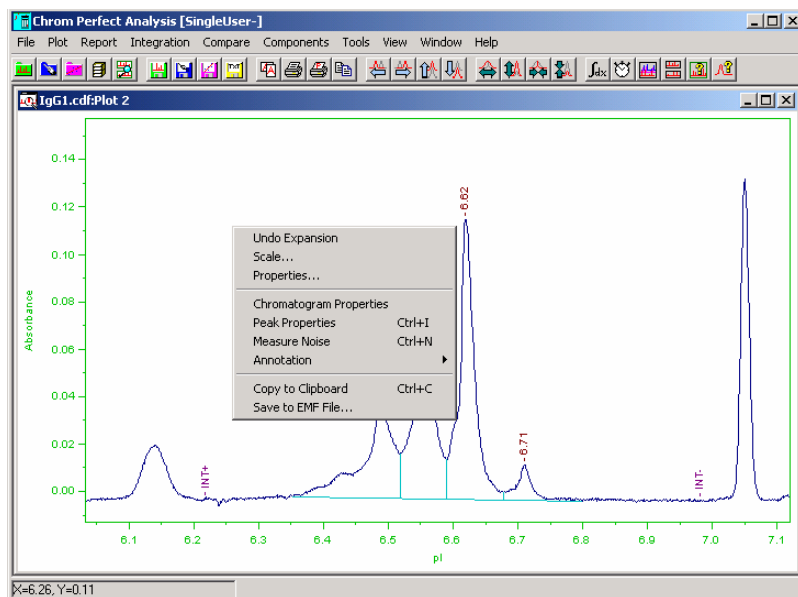
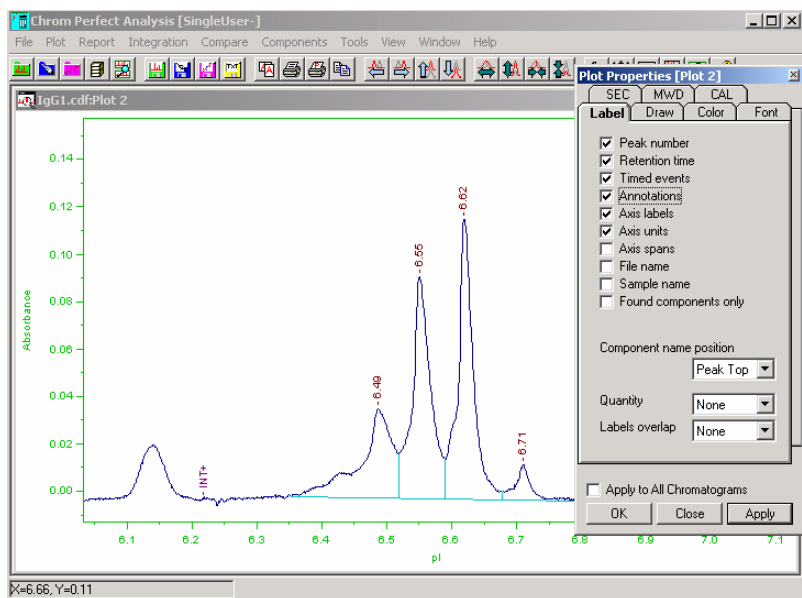
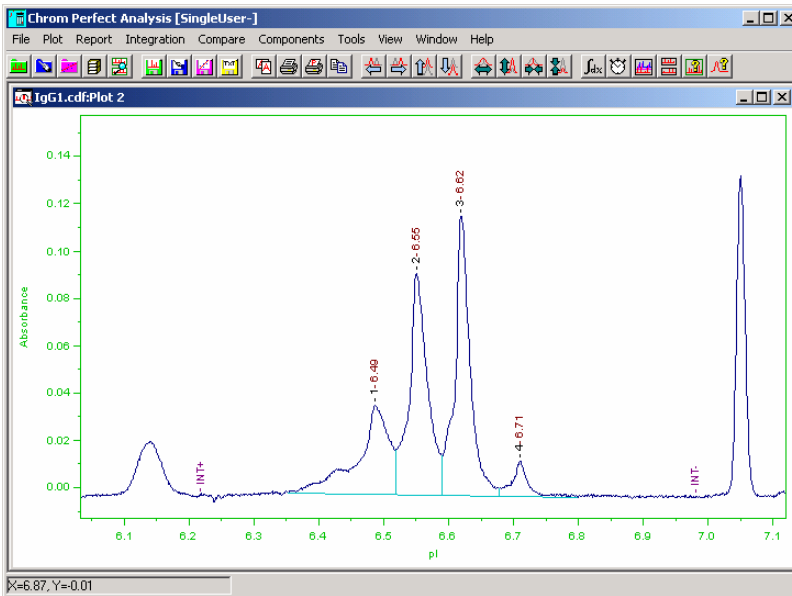

Figure A-18: Plot Properties (A)
Figure A-19: Plot Properties (B)
Figure A-20: Plot Properties (C)
- To do this, as shown in Figure A-18, Figure A-19, and Figure A-20, right click one the plot to select **Properties...** to open Plot Properties window.